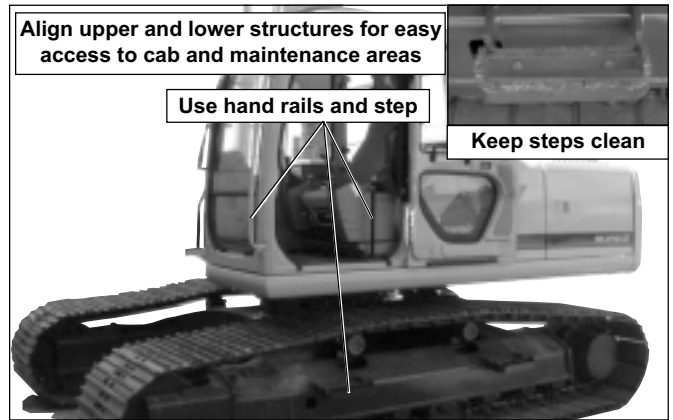

FIGURE 4.18A
1. Inspect daily all mounting steps and handrails on the machine to make sure they are clean and in safe working condition. See Figure 4.18A.